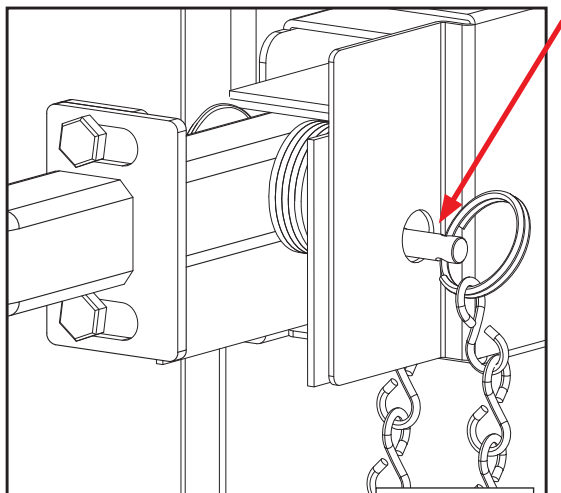

Figure 6.4
5. When spa cover is in full open position insert Locking Pin into hole located on the Main Assembly (Figure 6.4).
LOCKING PIN MUST BE INSERTED TO PREVENT THE COVER FROM ACCIDENTALLY CLOSING AND CAUSING INJURY (FIGURE 6.4).